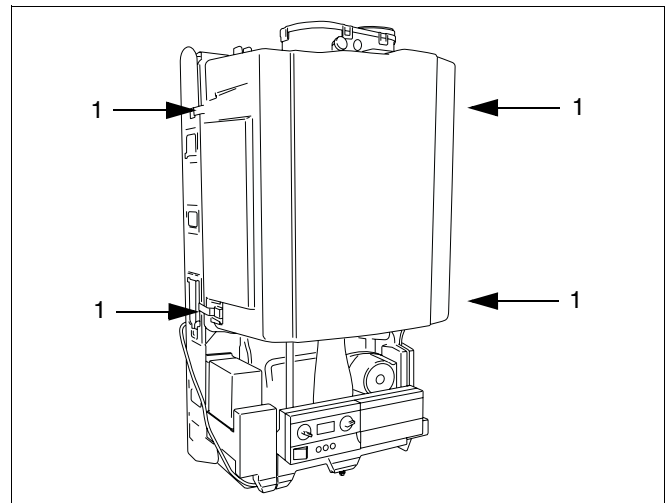

fig. 27 Remove ventilation cover
- Remove the ventilation cover (fig. 27).